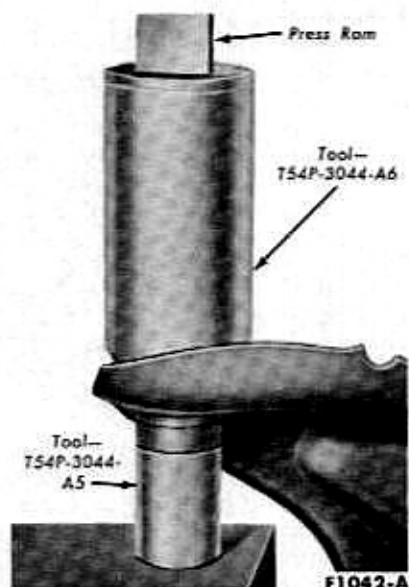

FIG. 4—Upper Arm Rear Bushing Removal
3. Remove the inner shaft from the rear bushing, and press the rear bushing out of the arm (Fig. 4).